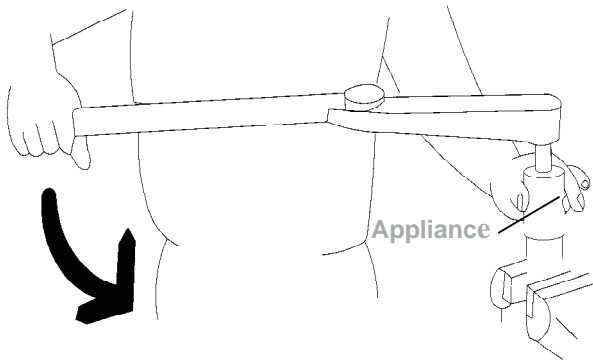

Fig. 192
3.1 Fix the pulse unit by a vise. Use the appliance (see Chart 30) to loosen the lock nut on the pulse unit, Fig. 192.